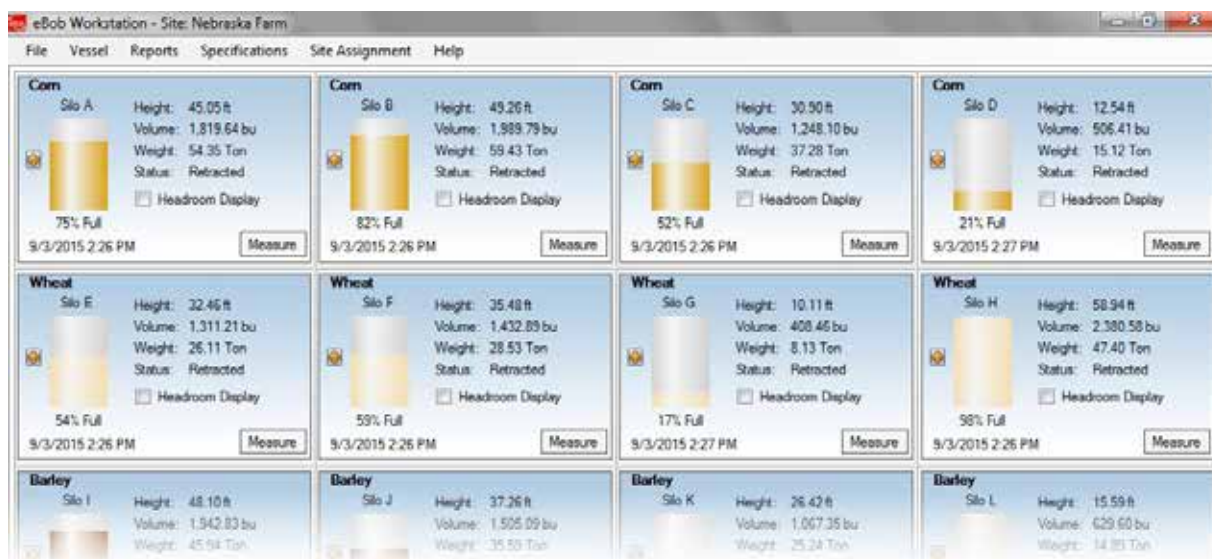

Figure 1
The main screen of Bininventory Workstation shown in Figure 1 provides a table of vessels, each represented by a panel, providing visual and detailed level indication. The main screen can display 16 vessels (panels) at a time with tabs along the bottom for quickly switching to view more vessels. There is also a menu system along the top that provides access to configuration screens for vessel setup, site setup, scheduling, alarms, email alerts and more.
- 1. Workstation** – This provides the user interface for Bininventory, it is what you will use to view vessels, product levels, configure the system and create reports. See Figure 1. It runs like most Windows programs, you double-click an icon on your desktop or click an icon in your Windows start menu and it opens a window for you to interface with, using a mouse and keyboard. There can be one or more Workstations in an Bininventory system. Refer to section 5 The Workstation for details.